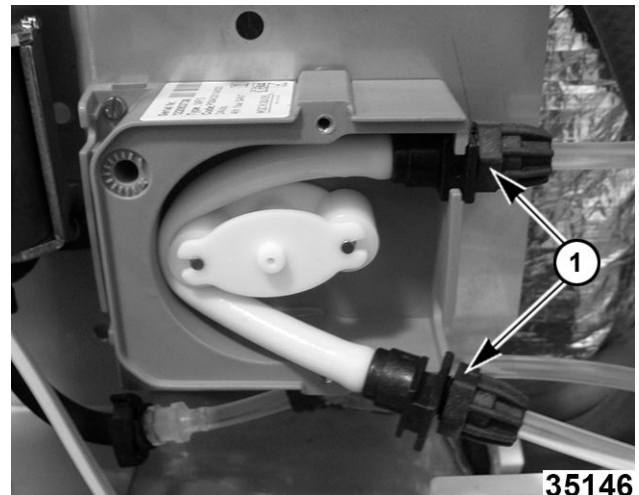

Fig. 57
4. Remove hose from pump and disconnect nuts (1, Fig. 57).